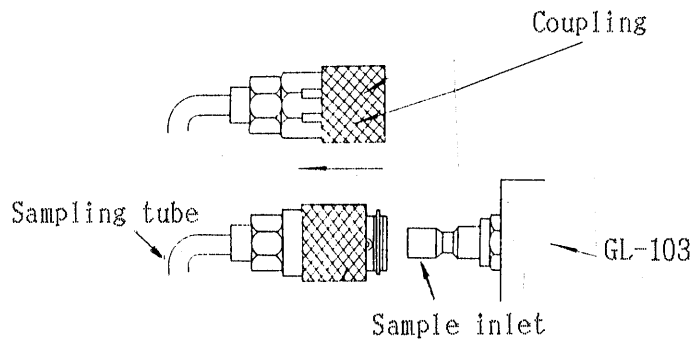

Fig. 6 Connection of sampling hose to sample inlet
- 1) Connect sampling tube and probe to sample inlet. Connector used for sample inlet is of the "quick-connect" type, which is released by pulling the coupling away from the joint to release as shown in Fig. 6.